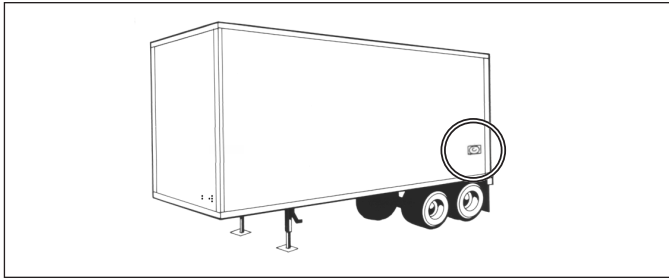

Figure 4 – Trailer-Mounted ABS Indicator Lamp
- **Trailer Antilock Braking System (ABS) Indicator Lamp:** See Figure 4. Controlled by the Electronic Control Unit (ECU) to show the ABS status, the trailer ABS indicator lamp illuminates when a Diagnostic Trouble Code (DTC) is active. If there are no ABS DTCs present when ignition power is applied to the ECU, the lamp will illuminate as a bulb check lasting typically two (2) seconds and up to six (6) seconds at most.